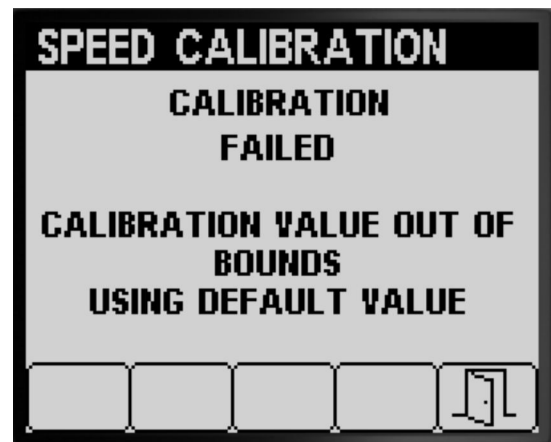

Figure 69
- A message displays indicating that the speed calibration is failed (Figure 69).
Note: If the calibration value is out of bounds (Figure 69), contact your authorized Toro service dealer; otherwise, review the error message and repeat the calibration steps in Preparing for the Speed Calibration (page 22) and Performing the Speed Calibration (page 23).
5. Press button 5 to exit the Speed Calibration screen (Figure 68 or Figure 69).